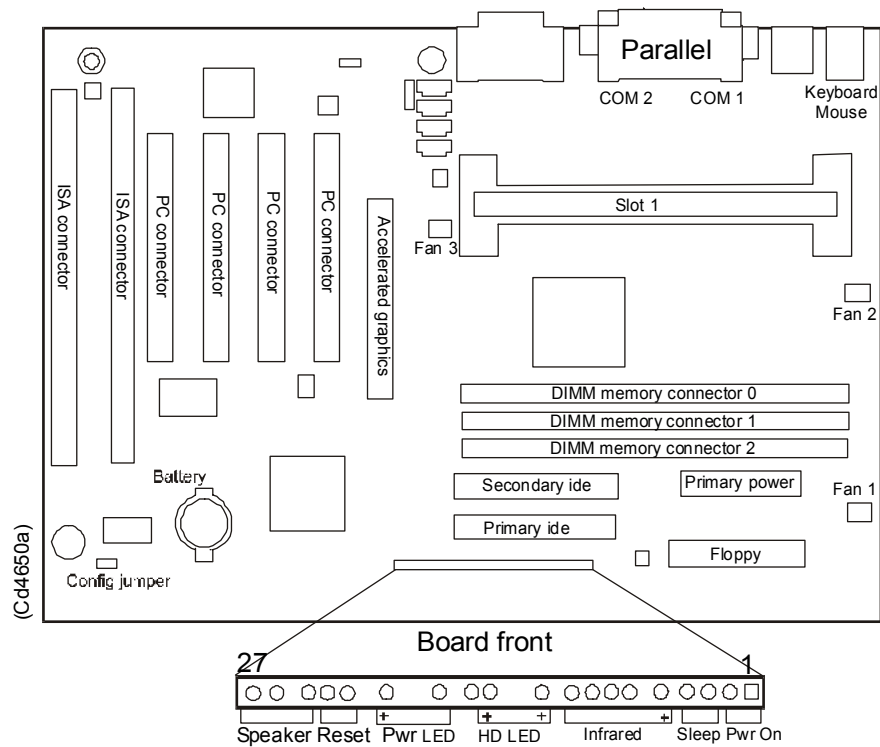

Figure 73 Motherboard with front panel I/O connectors
- The placements of the connectors are illustrated in figure 73.